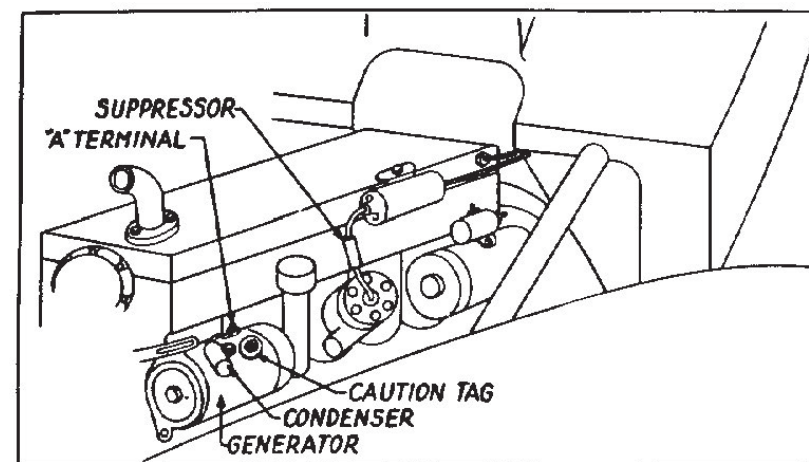

FIG. 4
1. Install the generator interference elimination condenser (part No. 117301) on the Generator, fastening it under the ground screw on the generator (see Fig. 4). Be sure to clean off any paint or dirt where you mount the condenser. Do not use the **"FIELD"** terminal. Connect the condenser lead to the **"A"** terminal on the generator. If generator interference persists, it can be eliminated by cleaning the commutator and re-seating the brushes.
3. Cut the distributor-to-coil high tension lead about one inch from the distributor cap and install the screw-in-type suppressor resistor (see Fig. 4).